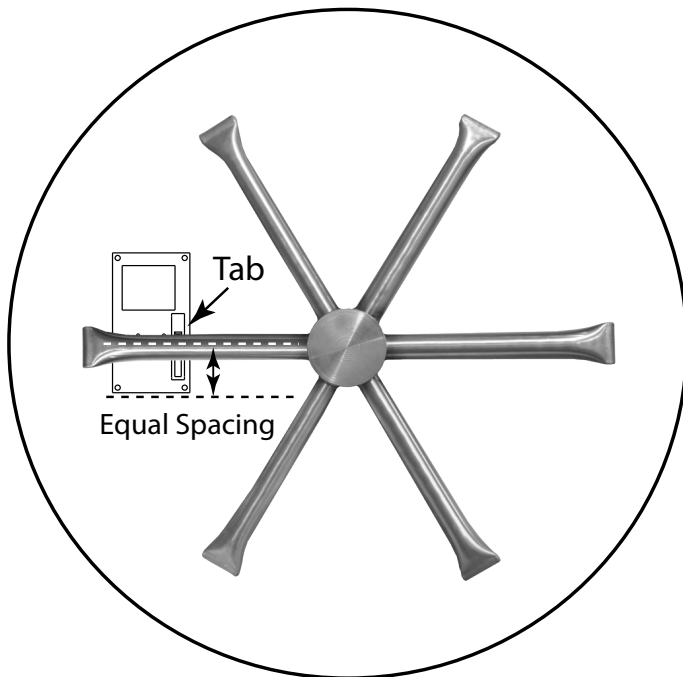
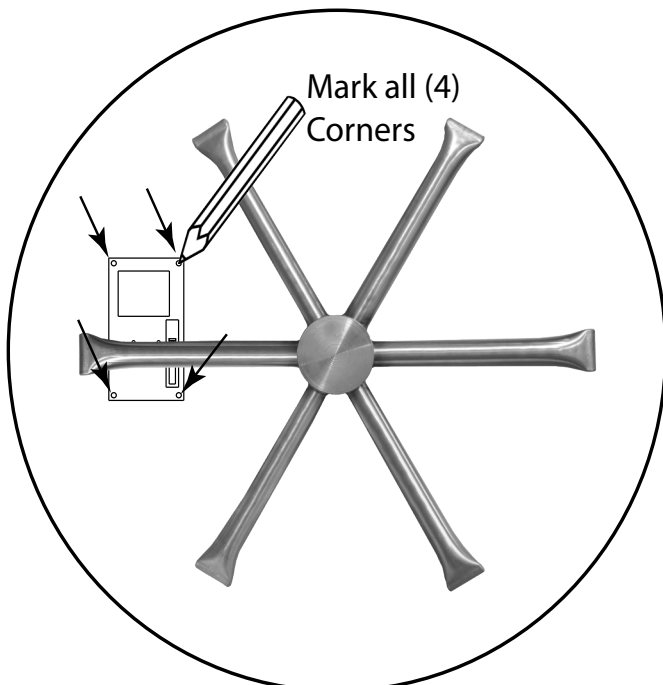

Fig.18 Show aligning AWS-PLATE to burner.
Fig.19 Shows marking AWS-PLATE to burner.
After the burner is temporarily installed into the burner pan place the AWS-PLATE with 90° tab facing the burner leg or tube. Press the tab against the burner and ensure the square hole in plate is centered over a burner port hole. See Fig.18 Align the tab square with the leg as shown in the figure drawing and mark the outside (4) corner holes of the plate with a pencil. See Fig. 19. Other examples of pilot location are shown on page 12 of this manual.